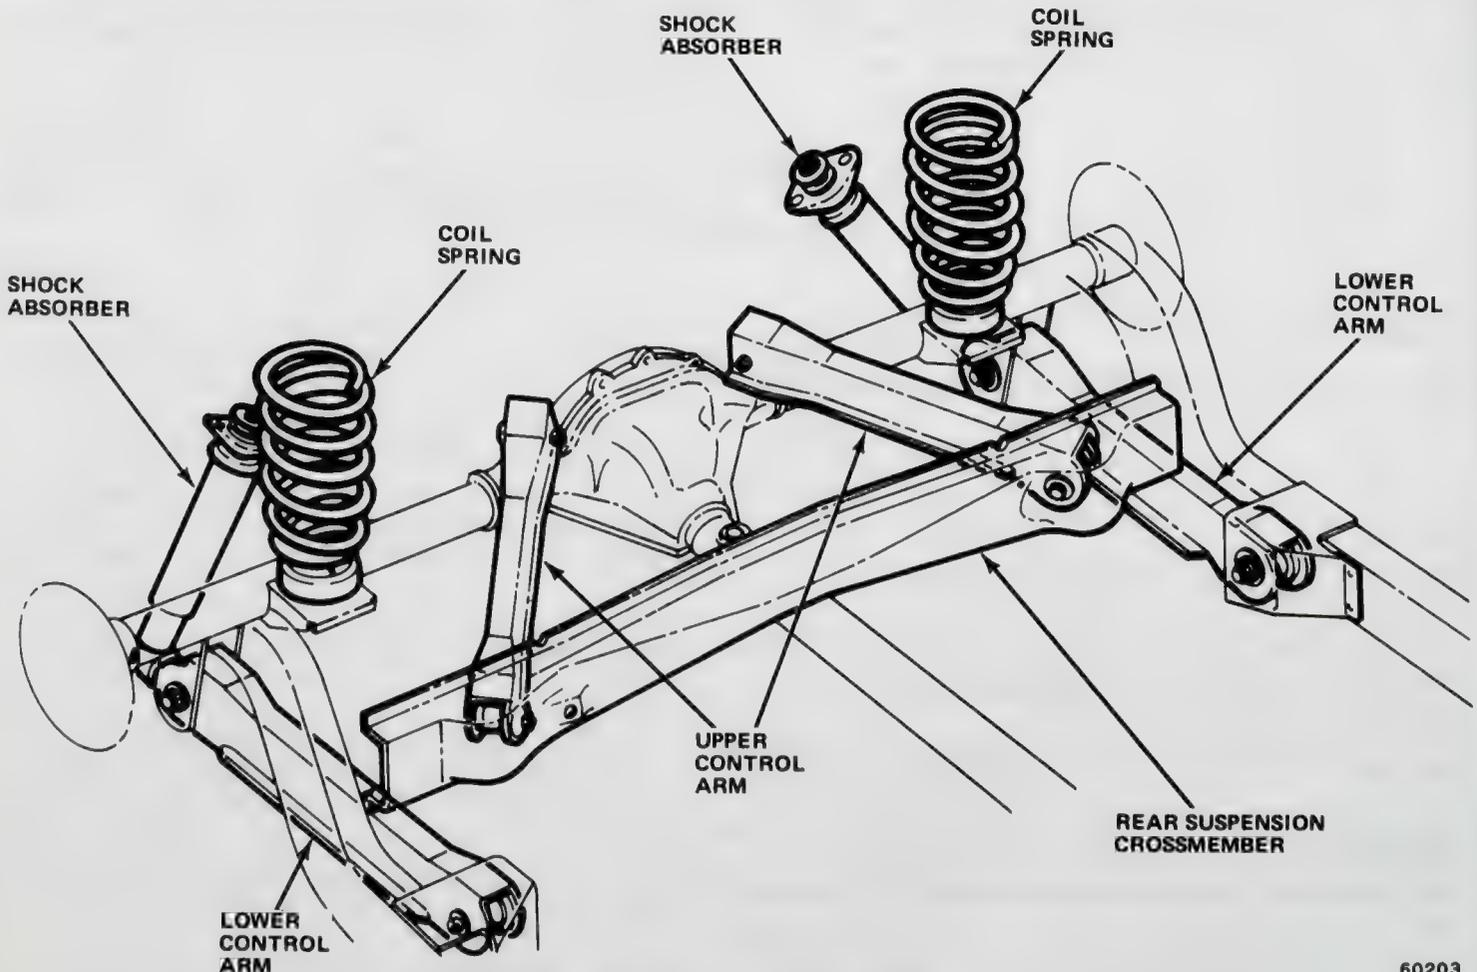

Fig. 2N-3 Rear Suspension—Matador
A four-link, trailing arm-type rear suspension utilizing coil springs is used on all Matador models (fig. 2N-3). Four control arms are used to maintain rear axle position and to attach the axle to the car. Two coil springs mounted on brackets attached to the axle tubes maintain ride height and quality. Telescopic double-acting shock absorbers are used to control spring action and provide the desired ride control.
(2) Remove shock absorber lower mounting stud, locknut, retainer, and grommet.
(3) Compress shock absorber by hand and disengage lower mounting stud from spring plate.
(4) Remove U-bolts spring isoclamps, and clamp bracket (fig. 2N-1).
(5) Remove pivot bolt and nut from spring front eye.
(6) Remove shackle nuts, shackle plate, and shackle from rear spring eye and remove spring.
(7) On Pacers, remove nuts attaching rear hanger bracket to mounting studs on frame side sill and remove spring (fig. 2N-2). Remove shackle nuts and shackle after spring is removed.